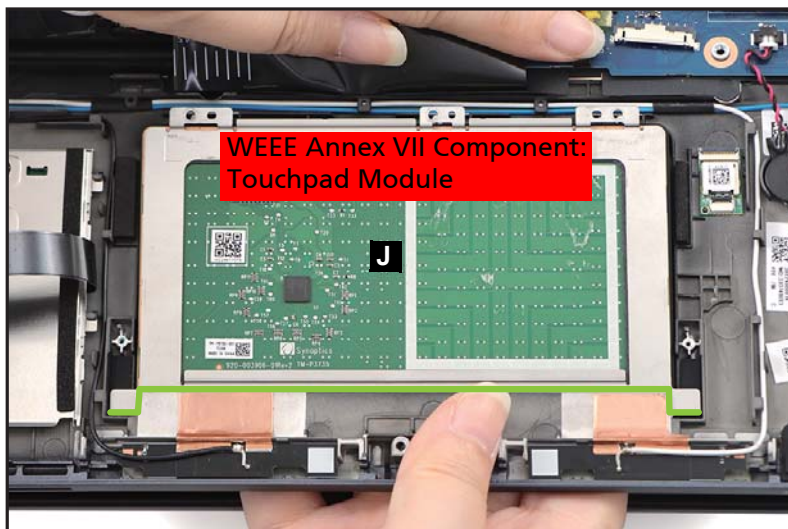

Figure 1-39. Touchpad Module Removal
10. With one hand is placed underneath the touchpad module (J), release the touchpad module from the top assembly and then remove (Figure 1-39).